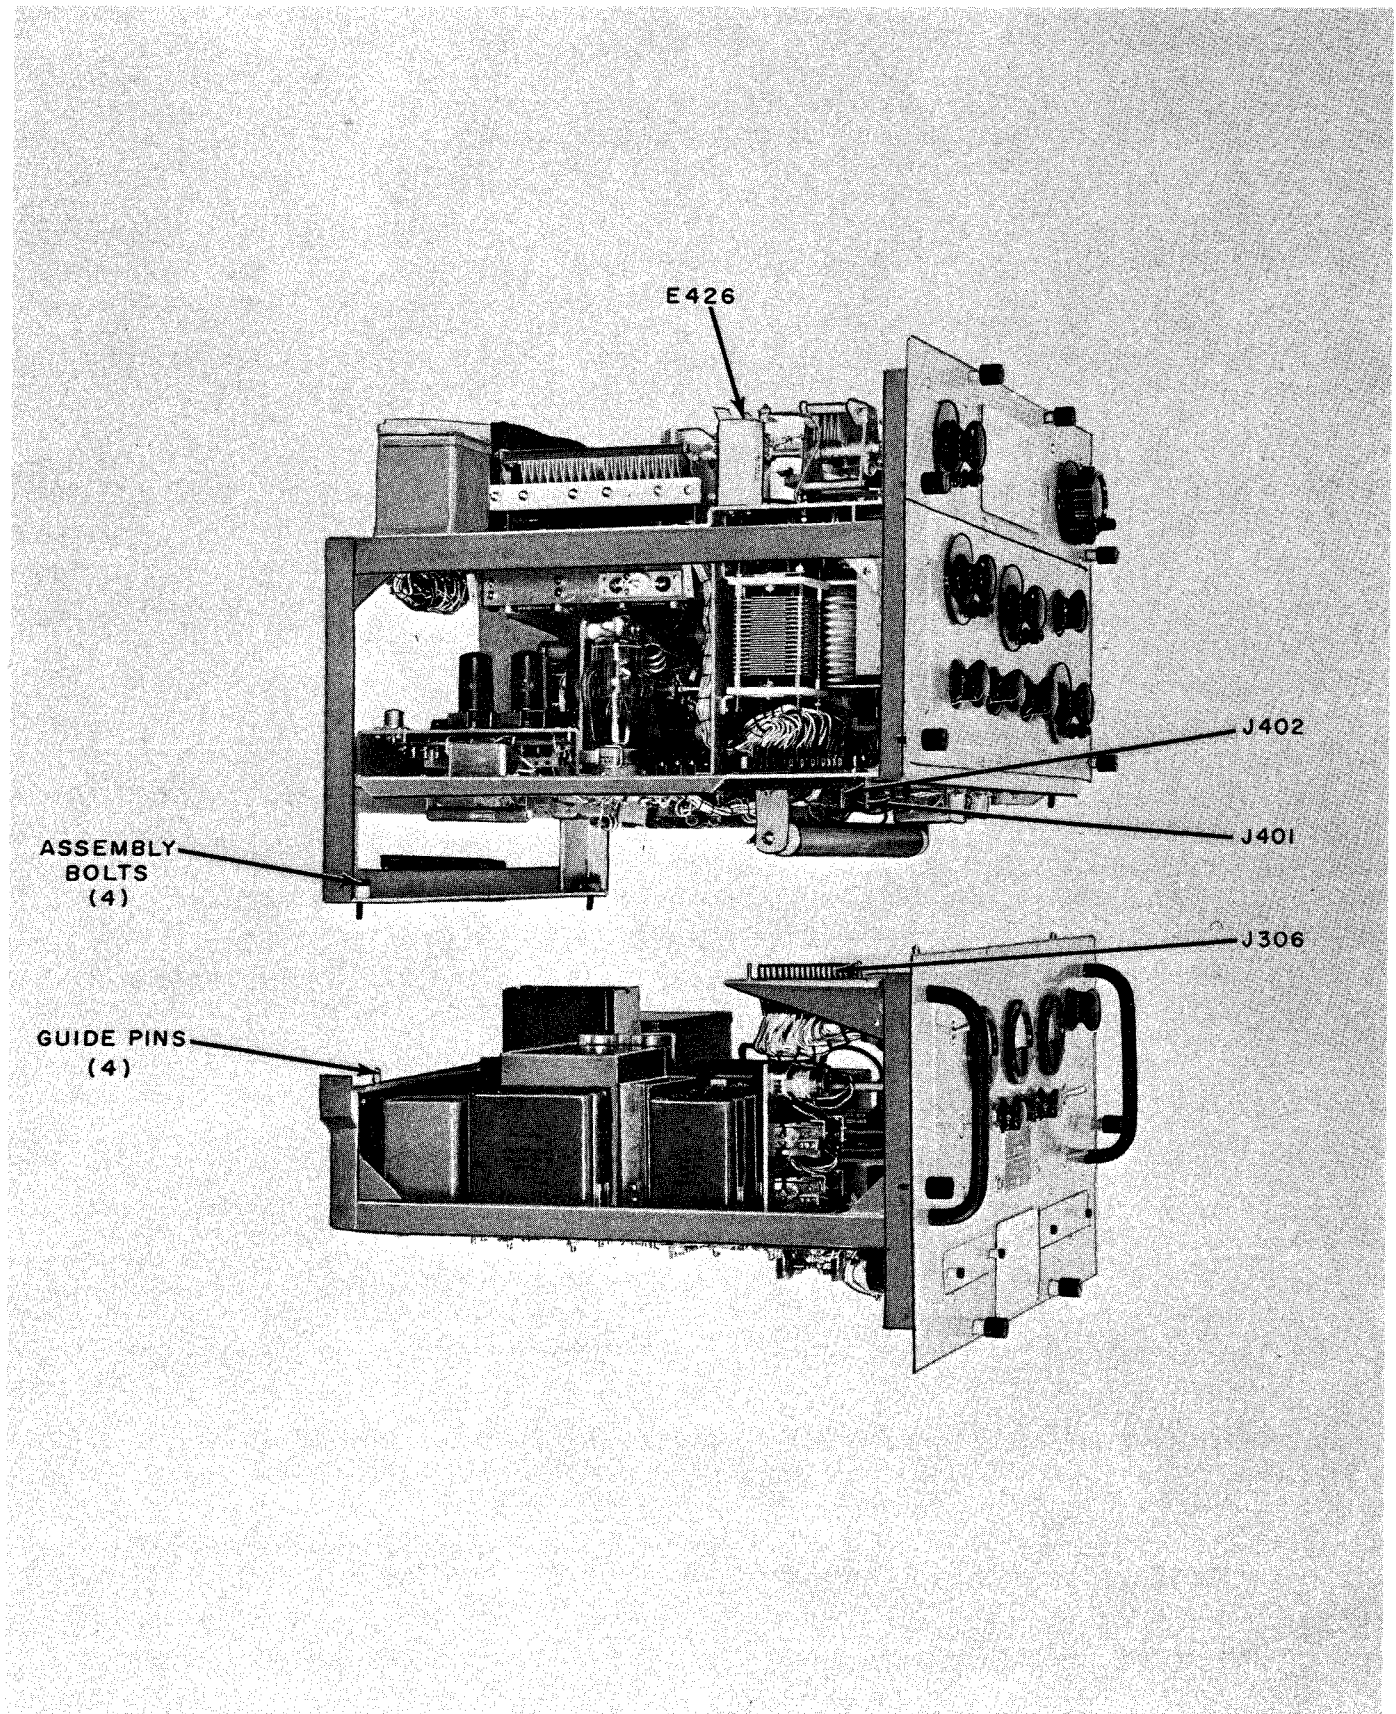

Figure 7-3. Disassembly of Radio Transmitter Unit
(4) To disassemble the Radio Transmitter unit (refer to figure 7-3):